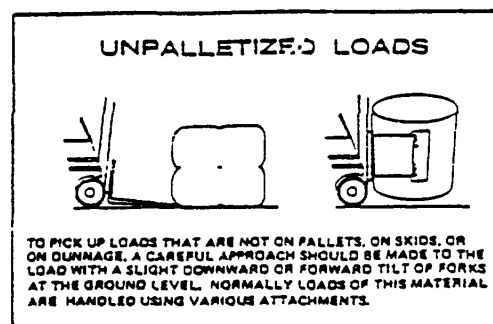

Figure 4-13. Unpalletized Load Handling
- a. Tilt the forks forward so their tips contact the floor (Fig 4-13).